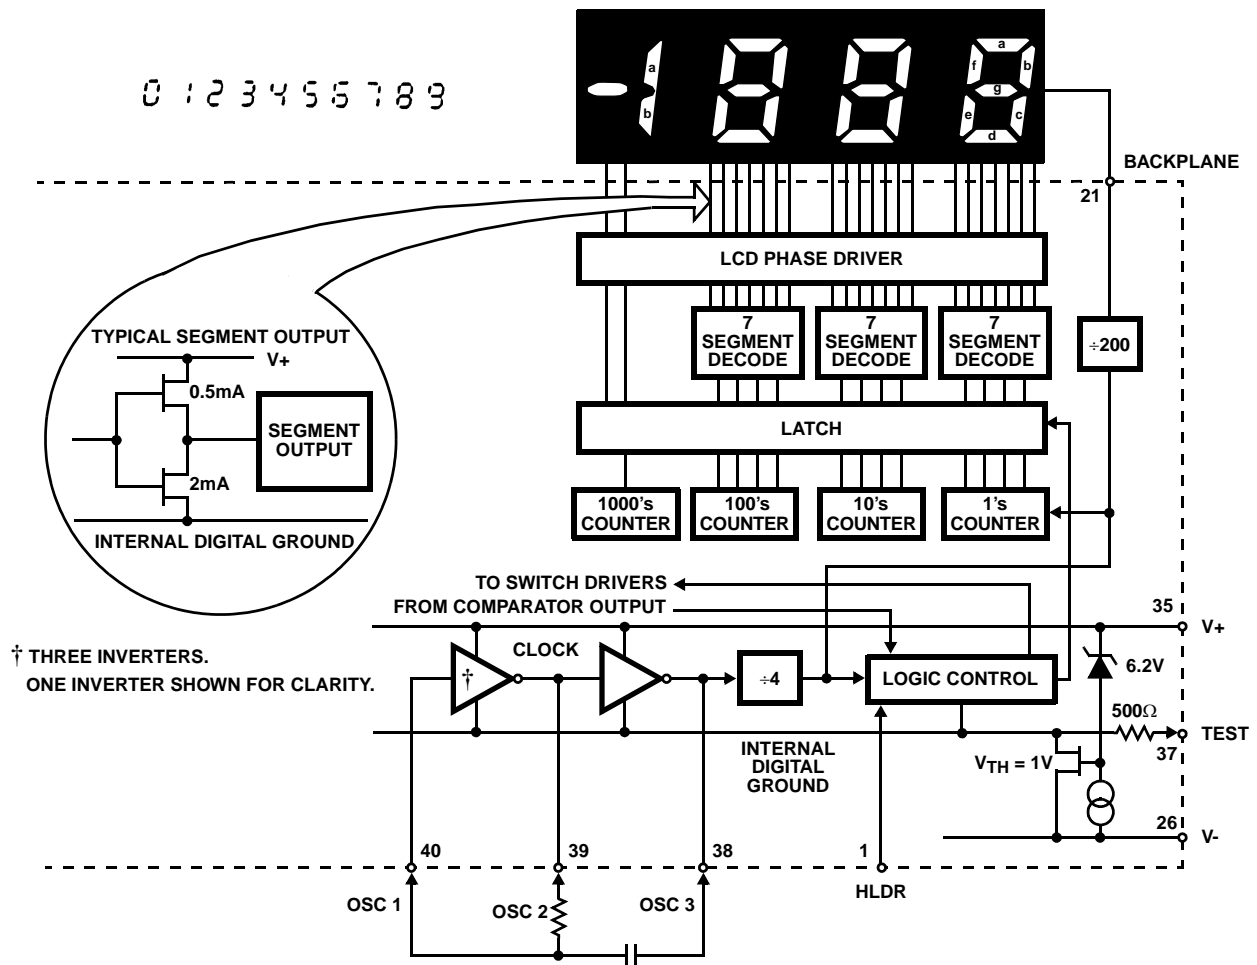

FIGURE 8. DIGITAL SECTION
Figure 8 shows the digital section for the ICL7126. An internal digital ground is generated from a 6V Zener diode and a large P-Channel source follower. This supply is made stiff to absorb the relative large capacitive currents when the back plane (BP) voltage is switched. The BP frequency is the clock frequency divided by 800. For three readings/second this is a 60Hz square wave with a nominal amplitude of 5V. The segments are driven at the same frequency and amplitude and are in phase with BP when OFF, but out of phase when ON. In all cases negligible DC voltage exists across the segments. The polarity indication is "ON" for negative analog inputs. If IN LO and IN HI are reversed, this indication can be reversed also, if desired.